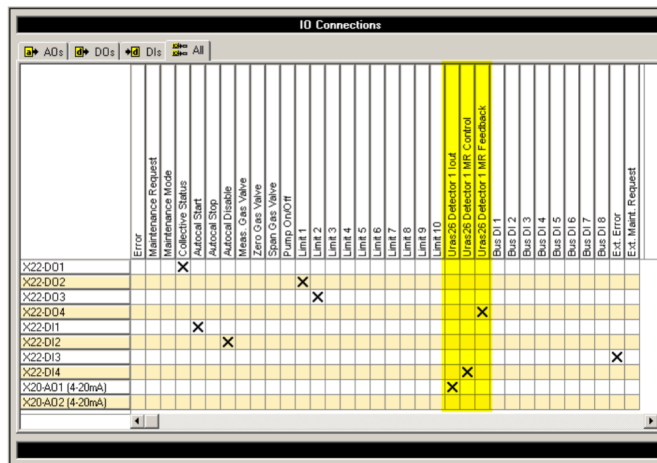

Figure 75: 'IO Connections' menu
The automatic measuring range switchover 'Autorange' can only be configured if an analog output is assigned to the detector. The externally controlled measuring range switchover 'DI Control' can only be configured if an analog output and a digital input are assigned to the detector, see Figure 75.
- The externally controlled measuring range switchover ('DI Control') can only be configured if an analog output and a digital input are assigned to the detector, see **Figure 75** on page 145.